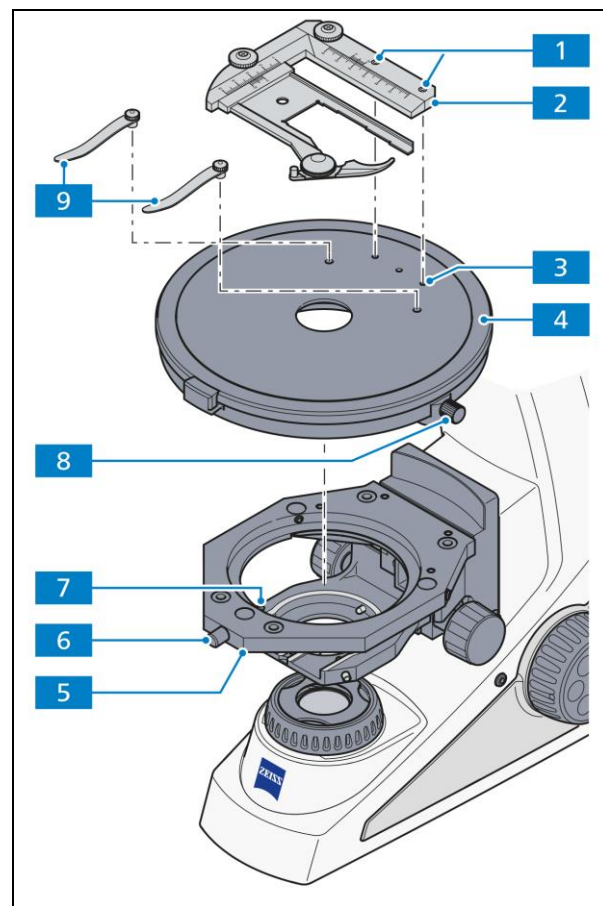

Fig. 3-10 Replacing the snap-in Pol rotary stage, detachable Pol specimen guide and stage clips
- Loosen the screw cap (Fig. 3-10/6) from the spring housing (about three rotations).
- Press the Pol rotary stage (Fig. 3-10/4) to the front against the spring-loaded pin (Fig. 3-10/7), lift it off the stage carrier (Fig. 3-10/5) from the back and remove it upwards.
- Re-tighten the screw cap (Fig. 3-10/6).
- Where necessary, loosen the screw cap (Fig. 3-10/6) of the spring housing with approx. three rotations.
- Place the Pol rotary stage with the groove of the dovetail (stage bottom) on the spring-loaded pin (Fig. 3-10/7).
- Attach the rotary stage with the clamp screw (Fig. 3-10/8) pointing to the front right.
- Press the Pol rotary stage to the front against the spring-loaded pin and lower it towards the back into the stage carrier (Fig. 3-10/5), then release it.
- Loosen the two clamp screws (Fig. 3-10/1) on the Pol specimen guide with an Allen wrench (AF 2). Remove the Pol specimen guide (Fig. 3-10/2) by lifting it upwards.
- Insert the stage clips (Fig. 3-10/9) into the holes provided.
- Remove the stage clips (Fig. 3-10/9) from the Pol rotary stage.
- Insert the Pol specimen guide (Fig. 3-10/2) with the two cylindrical pins on the underside into the holes provided (Fig. 3-10/3) and tighten the two clamp screws (Fig. 3-10/1) with an Allen wrench (AF 2).